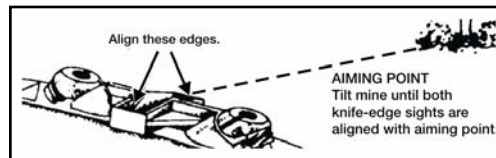

Figure 071-325-4425-8. Aiming knife-edge sight (continued)
(2) On a slit-type peep sight, align the groove of the sight in line with the aiming point that is 2.5 meters (8 feet) off the ground (figures 071-325-4425-9 and 071-325-4425-10).